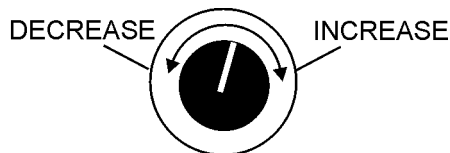

Figure 43. Voltage Adjust Control Knob
6. Use the voltage adjustment control knob (Figure 43) to increase or decrease the desired voltage.